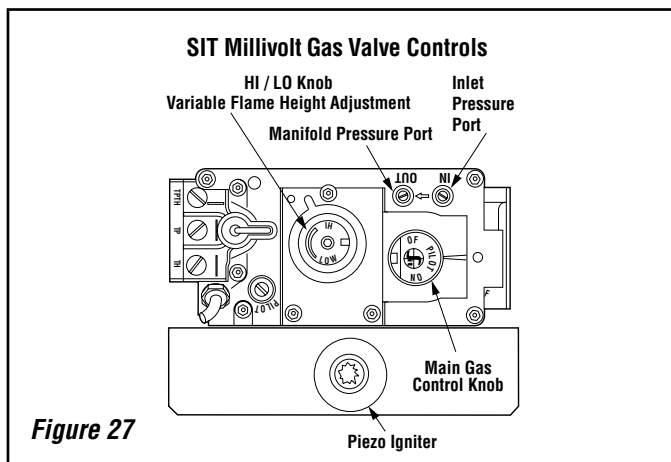

Figure 27
- Loosen setscrew at inlet pressure tap on upper right of control valve (see **Figure 27 on Page 23**).
With gas line installed run initial system checkout before closing up the front of the unit. Follow the pilot lighting instructions on **Page 30** (or pull out the instruction label located in a holder on rear shield of stove). For piezo igniter location see **Figure 27**.